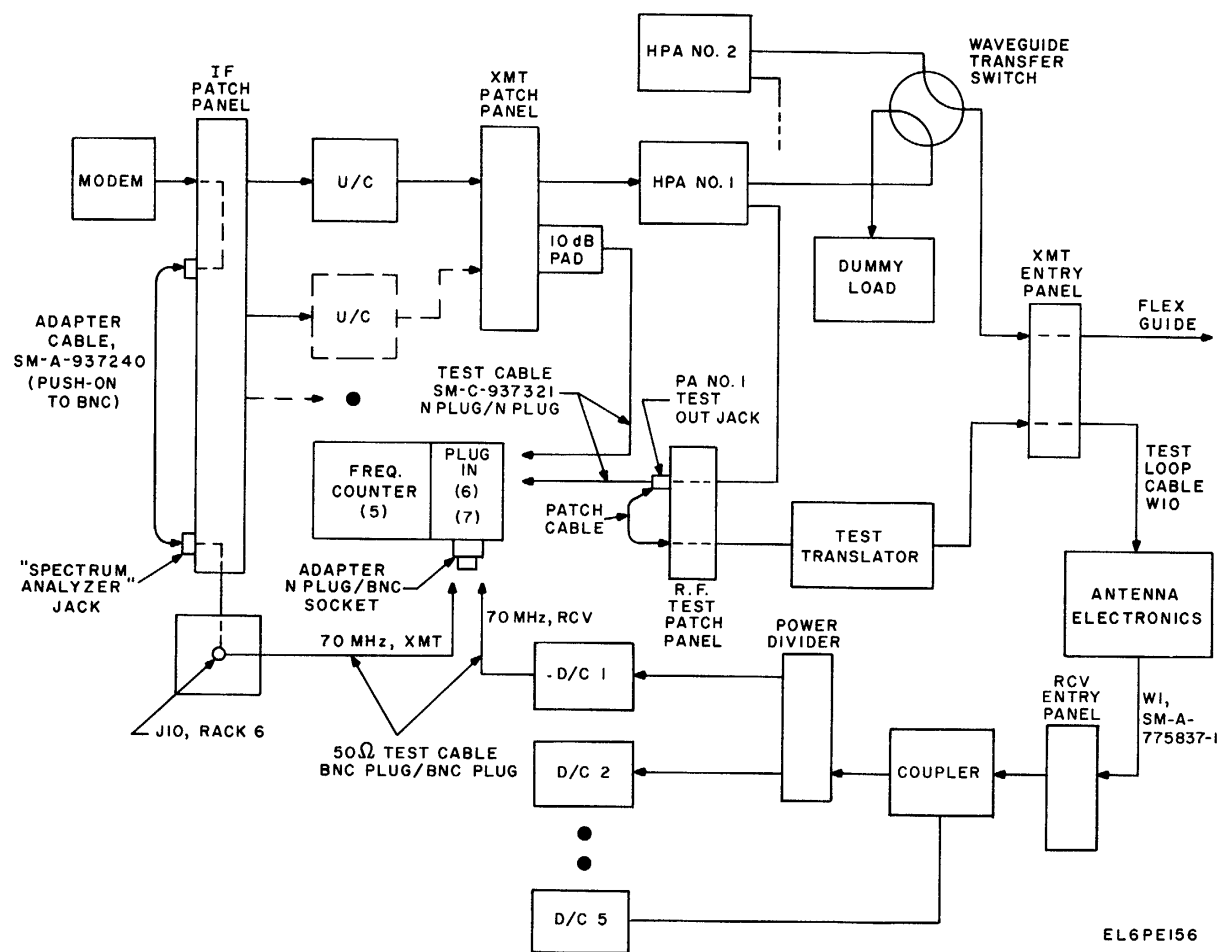

Figure 8-3. Frequency Accuracy Test Setup.
(1) Insert the HP-5253B heterodyne converter (CV-2002/U) in the frequency counter. Turn on counter and allow to warm up.
(2) By using the patching and interconnections shown in figure 8-3, establish a complete transmit and receive test loop, placing the desired modem upconverter, downconverter, PA, etc. on line. Turn on the on-line equipment. Set the PA in standby.
(2) Tune the PA to be used to 8100 MHz. Set the waveguide transfer switch to route the output of this PA to the dummy load.
(3) Leave the other PA (the on-line unit connected to the antenna) either off or in the standby condition.
(4) At the RF test patch panel, patch the test out jack for the off-line PA to the test translator input jack.
(5) Turn on the test translator.
(6) Check that the test loop cable, W10, and the receiver input cable, W1, are installed as shown in figure 8-3.
(7) Install the HP-5253B plug-in module in the frequency counter and turn on counter.
(8) Connect the IF output of the downconverter to be tested to the input of the HP-5253B plug-in module. Use a BNC to BNC test cable and a BNC to N adapter for this connection.
(9) Tune the downconverter to 7375 MHz.
(10) Operate the off line PA and set its power output level to 1000 watts.
(11) With the frequency counter, measure the downconverter IF output frequency.
(12) If the measured frequency is out of tolerance, check the test translator for phase lock.